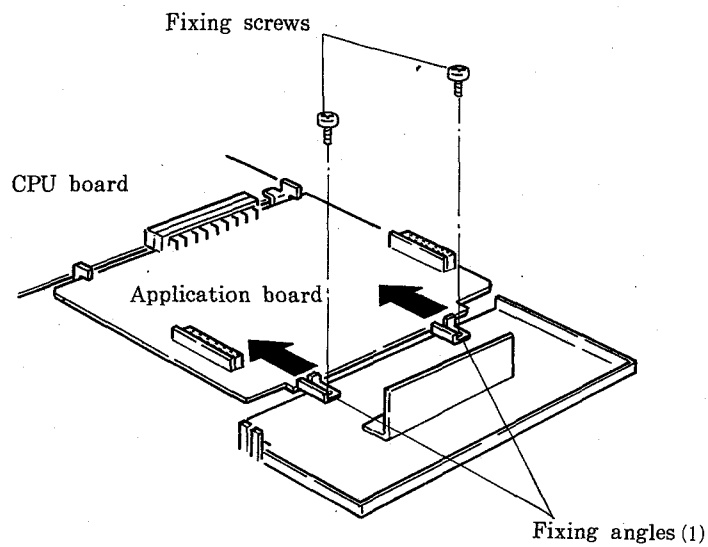

Fig.10
- c) Fix the fixing angles (1) with the fixing screws (2 pcs.). (See Fig.10 above.)